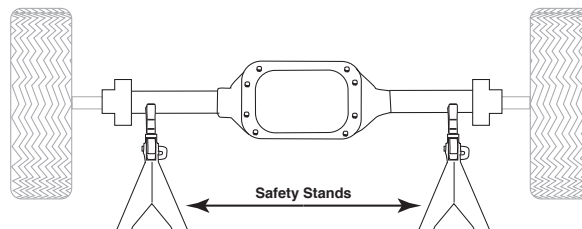

fig. 2
1. Raise the vehicle and support the axle with safety stands, setting the safety stands as wide as possible on the axle (fig. 2).